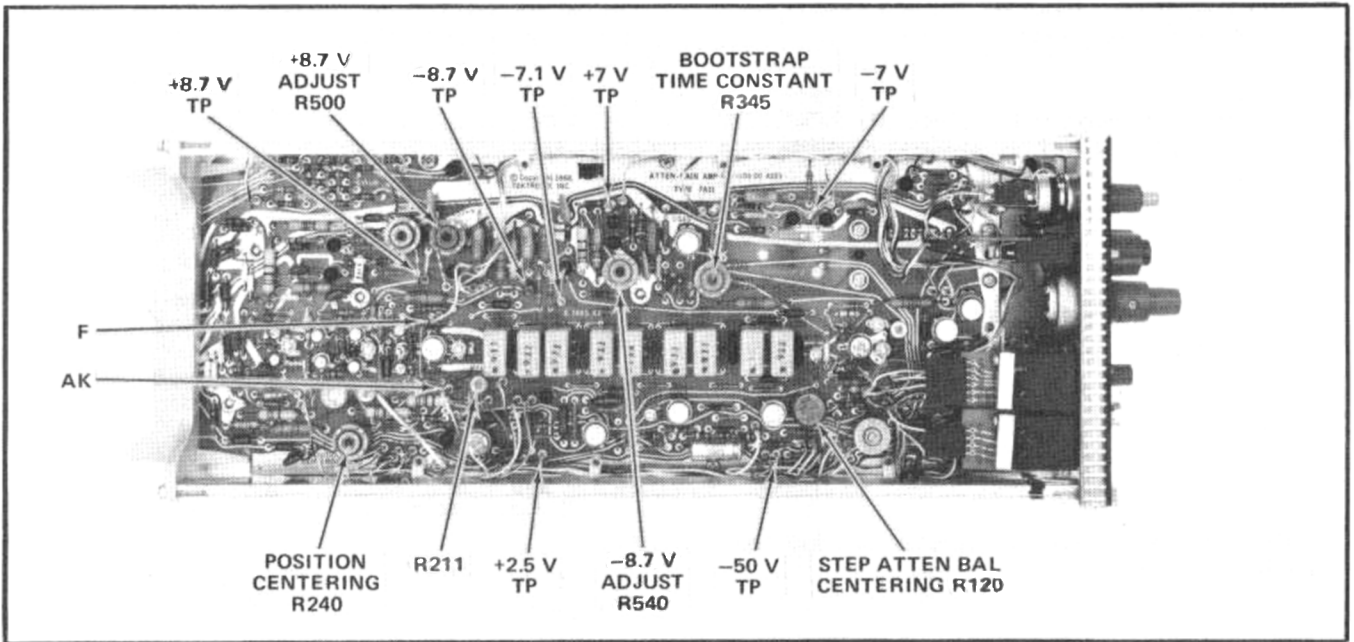
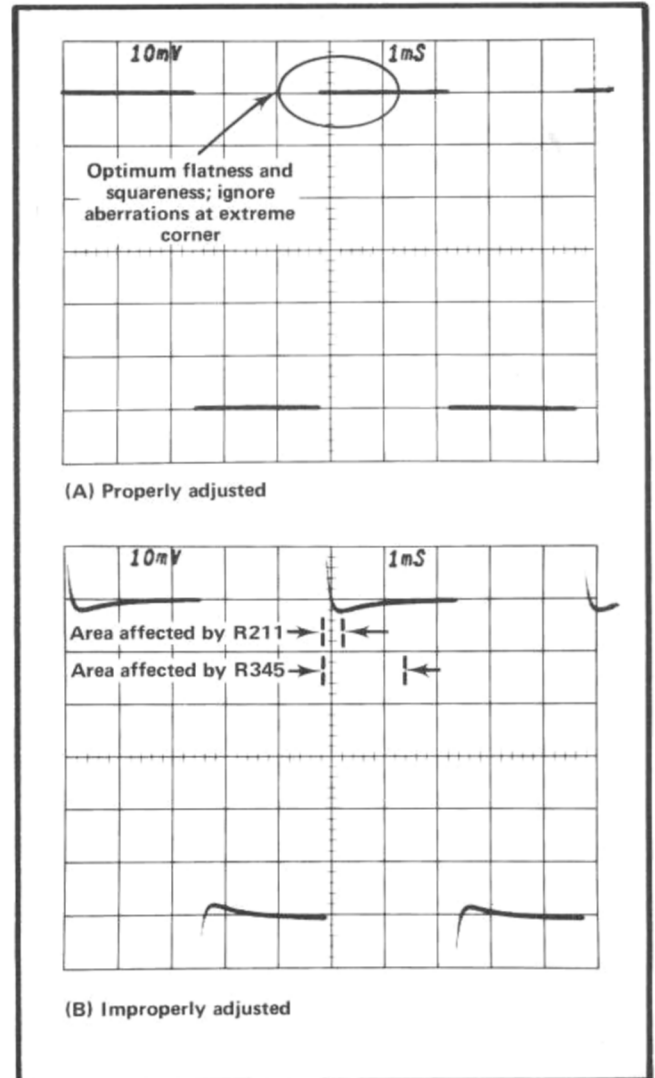

Fig. 5-4. Test point and adjustment locations for steps 1 through 4.
Fig. 5-5. Mid-frequency response waveforms, step 4.
b. CHECK—Voltages. Using the DC Voltmeter (item 3), check the voltages listed in Table 5-3. Test points are shown in Fig. 5-4.
c. ADJUST—+8.7 V ADJUST, R500, and -8.7 V ADJUST, R540, (Fig. 5-4) as necessary to have the applicable power supplies within allowable values. Note that R540 also controls the -7.1 V supply. The +7 V, -7 V, and +2.5 V supplies are not adjustable.
(1) Set the STEP ATTEN BAL to midrange and pull out on the Oscilloscope Beam Finder knob.
(2) Set the 7A11 POSITION control to midrange. Note the trace position.
(3) Change the POLARITY selection and again note the trace position.
(4) ADJUST—STEP ATTEN BAL CENTERING, R120 (Fig. 5-4) as necessary to set the trace halfway between the two observed positions.
(5) Alternately select +UP and INVERT Polarity and adjust ATTEN BAL CENTERING R120 (Fig. 5-4) as necessary to obtain minimum trace shift.
(6) Using the 7A11 POSITION control, set the trace to graticule center.
(7) Return the Beam Finder switch to normal by pushing in and releasing it.
(8) Alternately select +UP and INVERT Polarity and adjust ATTEN BAL CENTERING R120 (Fig. 5-4) as necessary to obtain minimum trace shift.
(9) Select + UP Polarity at the 7A11.
(1) Disconnect the connectors from terminals "F" and "AK" (Fig. 5-4).
(2) ADJUST—POSITION CENTERING R240 (Fig. 5-4) to move trace to graticule center.
(3) Reconnect the wires to terminals F and AK.
(4) Using the front-panel POSITION control, set trace to graticule center.
(5) CHECK—knob index should be within approximately  $10^\circ$  of top-center.
(6) ADJUST—knob to top center (loosen set screw) with trace at graticule center.
(7) CHECK—knob should be approximately centered in its stop-to-stop travel range.
b. Connect the following components to the Fast Rise + Output of the Type 106 Square Wave Generator (item 4) in the sequence given: 5X GR Attenuator (item 15), 50  $\Omega$  Termination/Adapter (item 12), 7A11 Probe.
e. Check that the Time Base sweep rate is at 1 ms/division and adjust the Time Base Triggering controls to obtain a triggered display as in Fig. 5-5(A).
g. (Calibration Procedure only.) ADJUST—R211 and R345 (Fig. 5-4) for optimum square corner and flatness. Rounding, overshoot and tilt should not exceed .05 division peak to peak. Use Fig. 5-5 as a reference. (Observing the display at 5 ms/division may aid in performing the adjustment.)